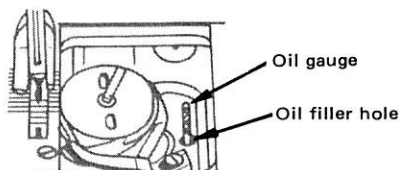

Fig. 3
2. Oiling for hook mechanism: Open slide plate on bed and pull out oil gauge. (Fig. 3)
Fill oil into reservoir for hook mechanism up to level reference mark on the gauge. (Fig. 3)